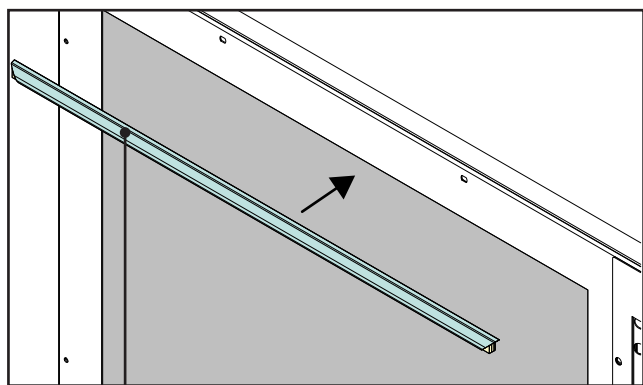

Figure 21
1. Stick the sealing profile to the top of the safety glass pane (Fig. 21+22).